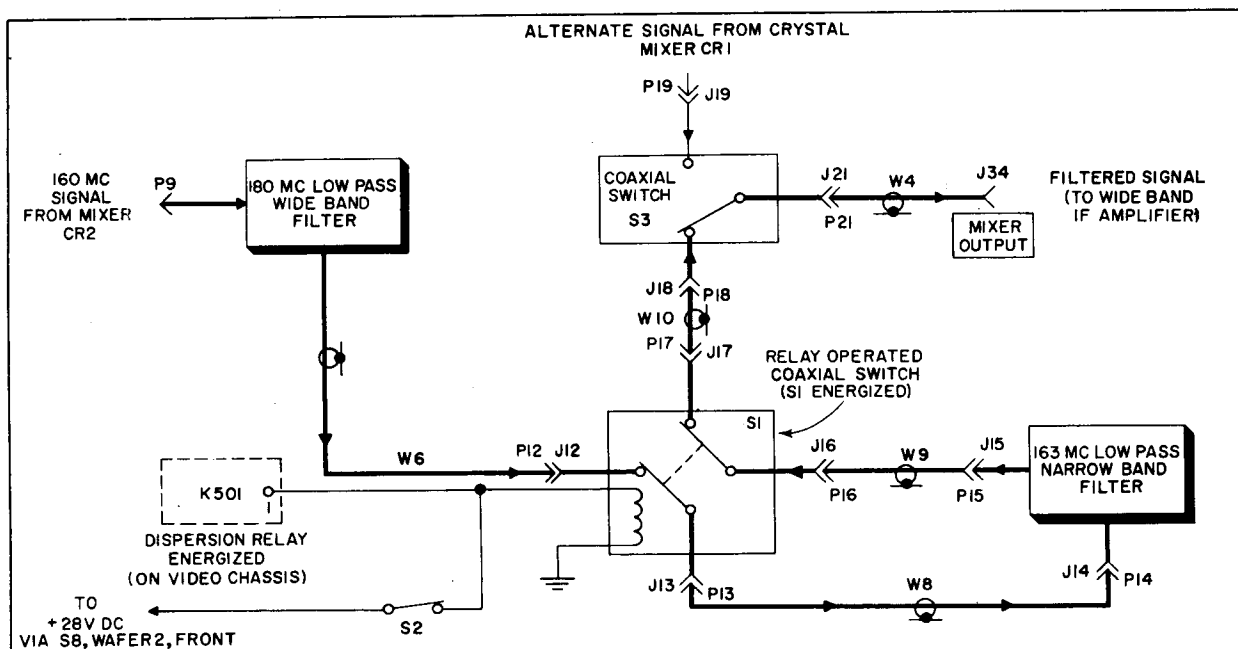

Figure 4-6. R-f Tuning Unit Relay Circuits, 10-55 Mc Operation, with Relay S1 Energized
b. The narrow-band low pass filter is nominally tuned to 163 mc, and is connected in series with the output of the 180 mc filter only when operating over the frequency range of 10 to 55 mc. (See figure 4-6.) This filter serves to reduce the overall i-f channel width to 5 mc. It also eliminates spurious responses due to the local oscillator, when the local oscillator is tuned in the vicinity of 160 mc during operation at the low end of the tuning dial.
4-19. INTRODUCTION. When rotated to bands 1, 2, and 3, contacts on the BAND SELECTOR apply B-plus voltage to transmission-line local oscillator V3, and energize coaxial switch S3. The contacts of switch S3 then permit the output of the low-frequency crystal mixer CR2 to be available at MIXER OUTPUT jack J34. When operating over the 10 mc to 55 mc portion of band 1, other BAND SELECTOR contacts energize coaxial switch S1, which places the 163-mc low pass filter in series with the 180-mc low pass filter. (See figure 4-6.) With the BAND SELECTOR rotated to
c. **NARROW DISPERSION ENABLING SWITCH S2.** With BAND SELECTOR S8A rotated to band 1 position and with the TUNING dial set within the frequency range from 10 mc to 55 mc (figure 4-6), the cam-actuated microswitch S2 is closed. Under this condition, the positive 28-volt potential available at terminal 10 of switch section S8A is applied to two additional circuits. One circuit consists of the coil of coaxial switch S1, which will then be energized. In the 10 mc to 55 mc portion of band 1, the output of the 180-mc low pass filter is coupled through coaxial cable W7 to S1 connector J12; one moving contact within the coaxial switch provides a closed path from input connector J12 to output connector J13. The signal is then applied through coaxial cable W8 and input connector J14 to the 163-mc low pass filter; the filtered signal is coupled from output connector J15 and coaxial cable W9 to input connector J16 of coaxial switch S1. A second moving contact within switch S1 provides a closed path to output connector J17; coaxial cable W10 applies the filtered signal to the input of coaxial switch S3. The second circuit that is energized by the closing of microswitch S2 is relay K501, located on the video chassis in the display unit. The coil of relay K501 is energized by 28 volts dc, which is coupled through pins L of J36-P36. A jumper interconnects pin L of P36 to pin L of P503 on the power supply; this connection is continued